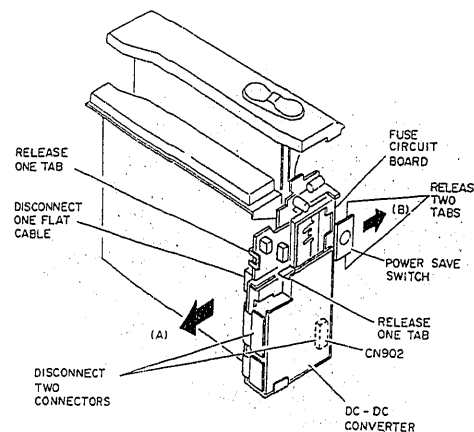

Fig. 2-12
- 1) Disconnect two (2) connectors (CN091, CN092) on the DC-DC converter. (See Fig. 2-12)
- 2) Release one (1) tab and remove the DC-DC converter in the direction of arrow (A).
- 1) Disconnect connector CN092 on the DC-DC converter. (See Fig. 2-12)
- 2) Release one (1) tab and remove the fuse circuit board in the direction of arrow (A).
- 3) Disconnect one (1) flat cable (CN908) on the main circuit board.
- 4) Release two (2) tabs and remove the power save switch in the direction of arrow (B).